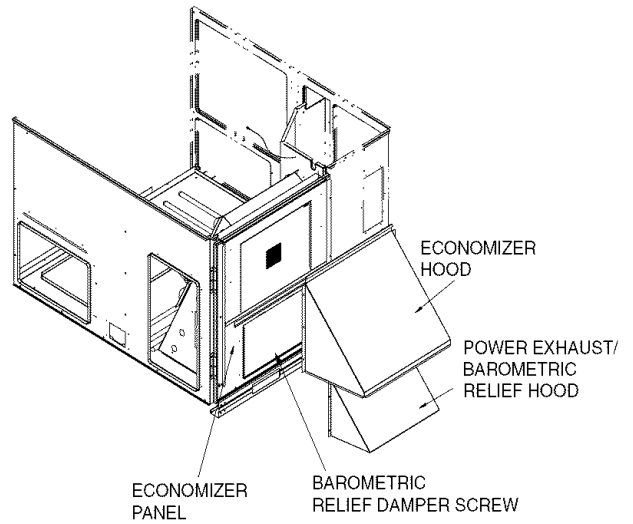

Fig. 15 — Hood Installation
3. The barometric relief damper is secured to the economizer panel for shipping. Remove the screw holding the barometric relief damper to the panel. Damper should be free to swing open during operation. See Fig. 15.
4. Hang the barometric relief/power exhaust hood on the mounting flange on the economizer panel. Secure hood to panel with screws saved from Step 2. See Fig. 15 and 16.
5. Align hole in flange of economizer panel with left edge of hood. Hang economizer hood on the top flange of the economizer panel by rotating hood until top flange of the economizer hood engages the bent flange on the economizer panel. Rotate hood until hood is flush with the economizer panel. Hood will support itself from flange. Hood will support itself from flange. Align holes in hood with holes in panel and secure hood to panel with screws saved from Step 2. See Fig. 15 and 17.